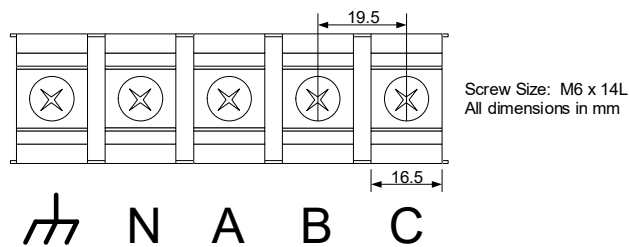

Figure 13 - AC Terminal Block Connections
5. Connect the ground cable as well as the three utility phase cables to the AC terminal block as shown in Figure 13. The neutral connection (N) is provisional and must be left unconnected. Connections should be tightened to a specified torque of 2.8 Nm (25 in-lb) +/- 5%.